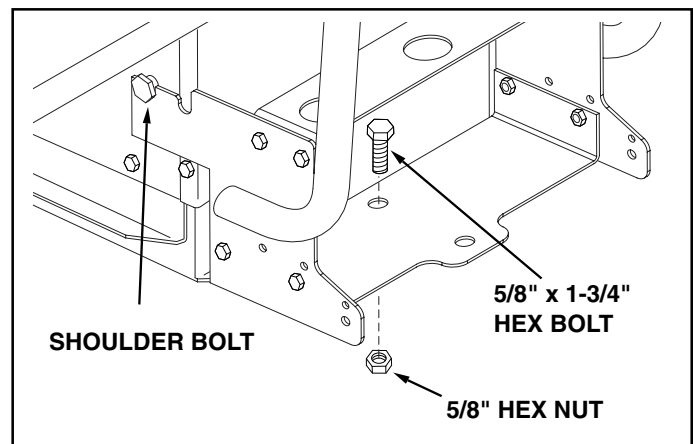

FIGURE 4
9. Hook the base assembly under the shoulder bolts on the sides the tractor frame using the **front** notches in the base assembly. Align the hole in the bottom of the base assembly with the hole in the tractor drawbar. Insert the 5/8" x 1-3/4" hex bolt and secure it with the 5/8" hex nut. See figure 4.